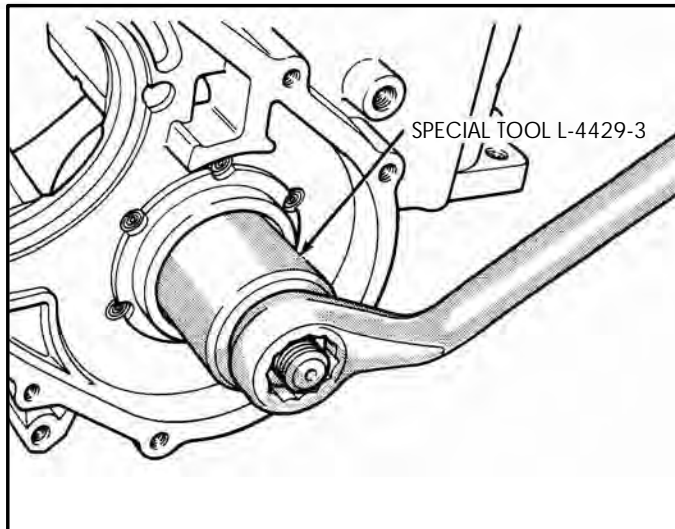

Figure 173
10. Install new rear planetary ring gear cup into case using special tool L-4429-3, as shown in Figure 173.